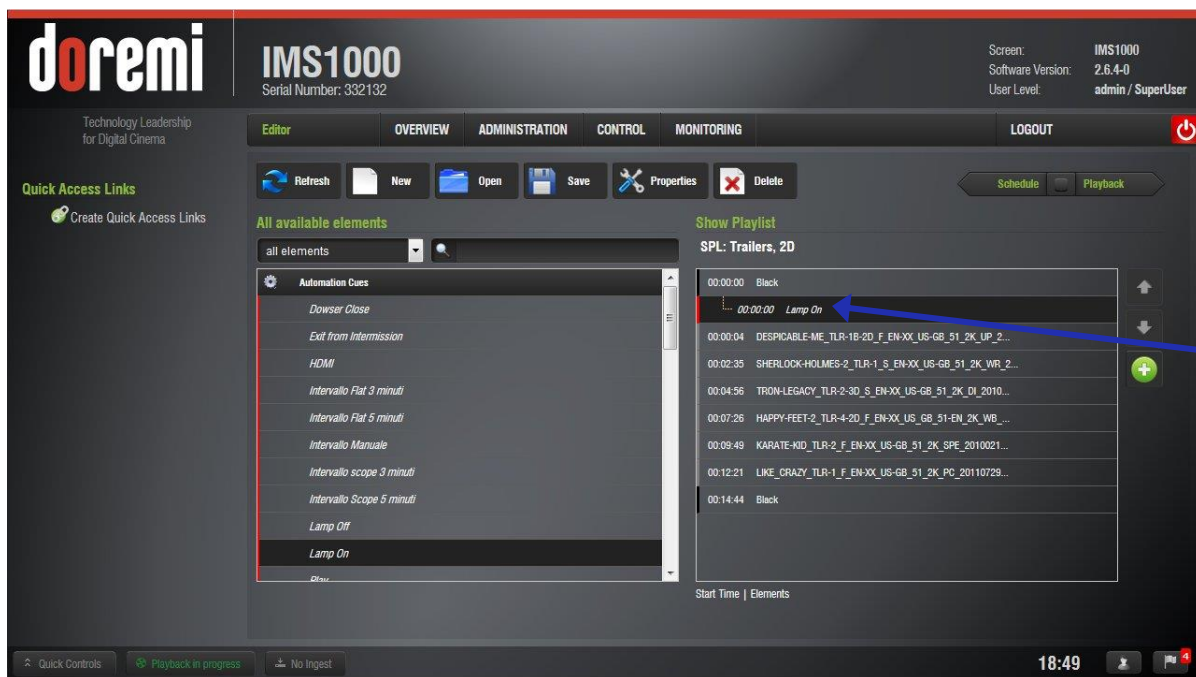

Figure 228: Macro Added
- Click Ok when finished and the macro will appear on the right hand side of the GUI (Figure 228).